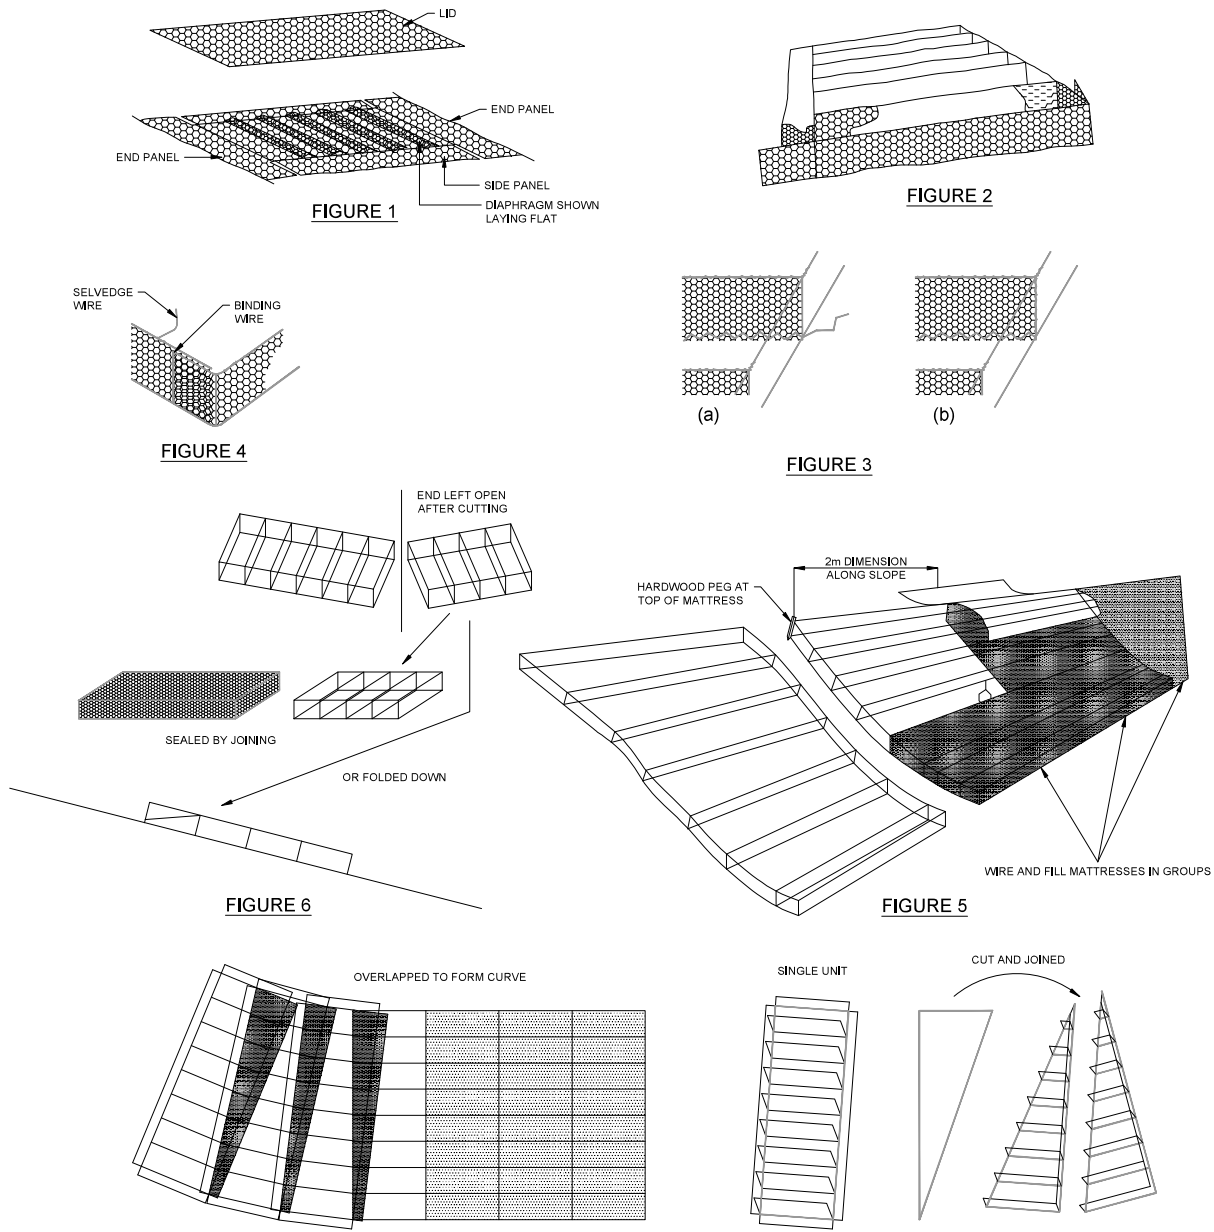

FIGURE 7
- MATTRESSES CAN BE CUT IN TWO WAYS TO FIT CURVES : BY DIVIDING IT DIAGONALLY TO FORM TRIANGULAR SECTIONS AND THE OPEN SIDE OF ONE SECTION BUTT-JOINED TO THE INTACT SIDE OF THE NEXT SECTION; OR WHOLE UNASSEMBLED FLAT UNITS ARE PLACED IN SEQUENCE AND OVERLAPPED TO SUIT THE CURVE, IN THE CASE OF THE LATTER, THE SIDES OF THE UNITS LAYING ON TOP ARE RAISED AND THE DIAPHRAGMS ARE CUT ALONG THE LINES OF THESE SIDES AND OULLED UPRIGHT, ASSEMBLY THEN PROCEEDS AS NORMALLY (FIGURE 7).